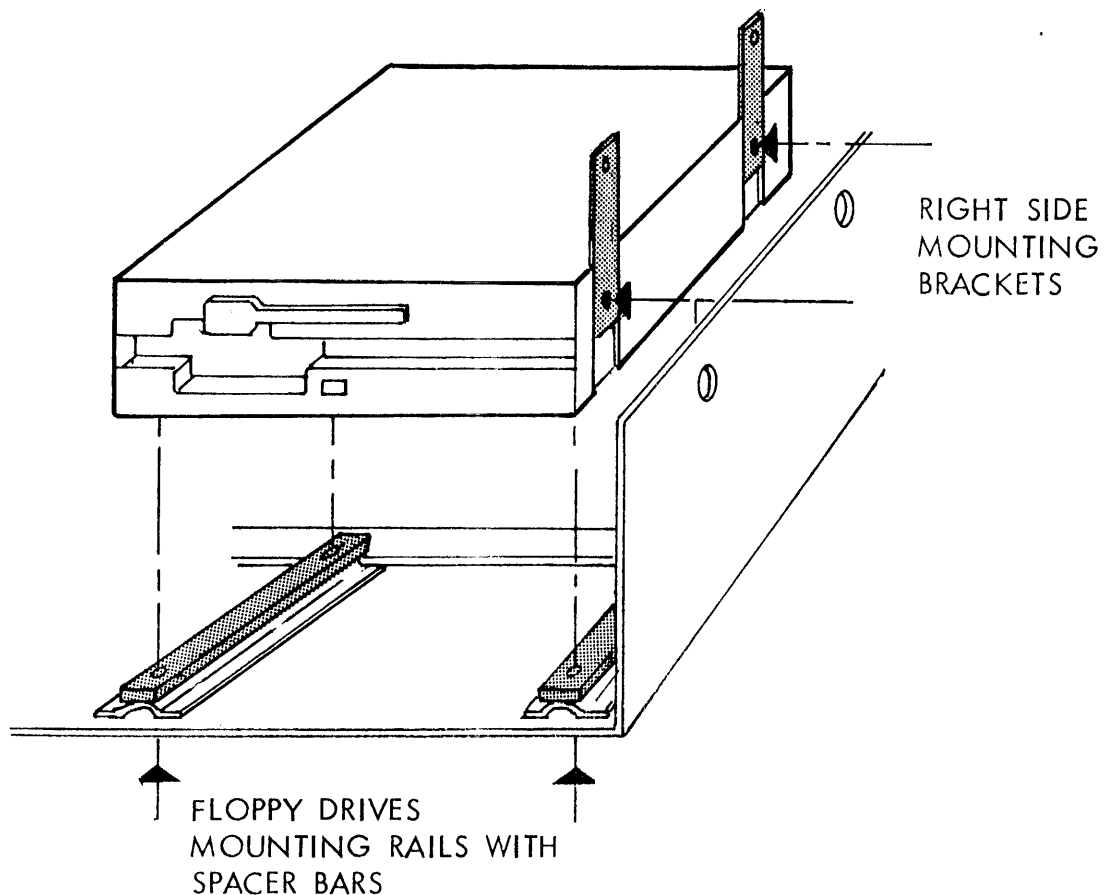

FIGURE 4: INSTALLING FIRST FLOPPY DRIVE
1. Using Figure 4 as a guide, install two mounting brackets on the right side of one drives using #6-32 flathead screws.